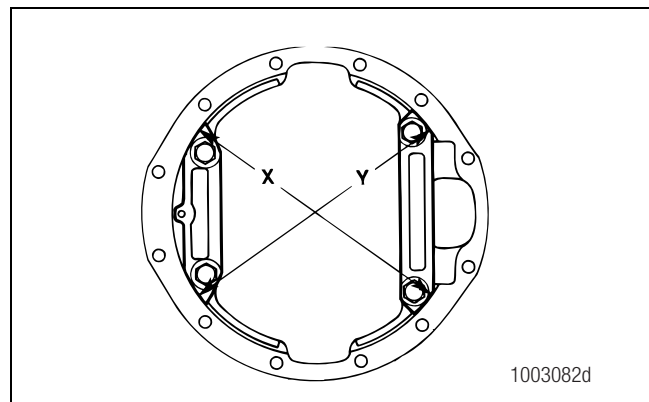
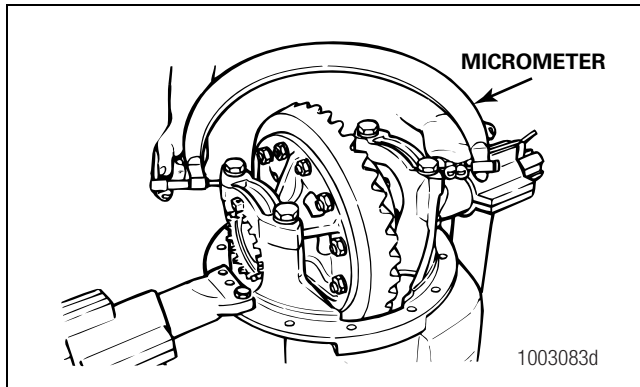

Figure 5.54
Figure 5.55
2. Use a micrometer to measure distance X or Y between the opposite surfaces of the bearing caps. Figure 5.54 and Figure 5.55. Record the measurement.